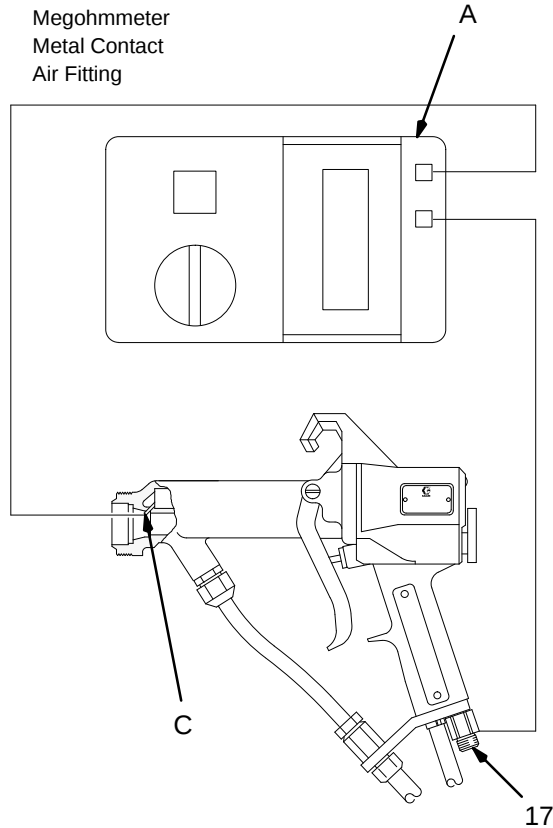

Fig 13
Remove the air cap, nozzle, and resistor stud. See **Air Cap/Nozzle/Resistor Stud Replacement**. Measure the resistance between the metal contact pin (C) and the gun air inlet fitting (17). See Fig 13.